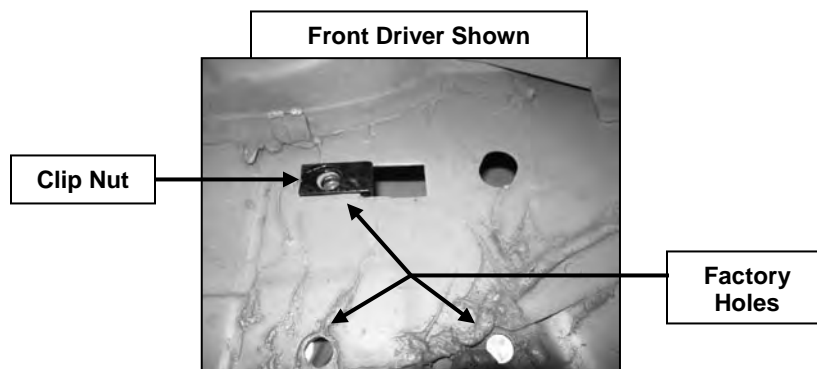

Figure 1
3. Install the 10mm Clip Nuts (*Figure 1*). **NOTE:** The rear mount will required (2) Clip Nuts and the front only (1).
4. Loosely attach the Driver Side Brackets to pinch weld using the included (2) 10-1.50mm x 40mm Hex Head Bolts, (4) 10mm Flat Washers, and (2) 10mm Lock Washers (2 & 3)).